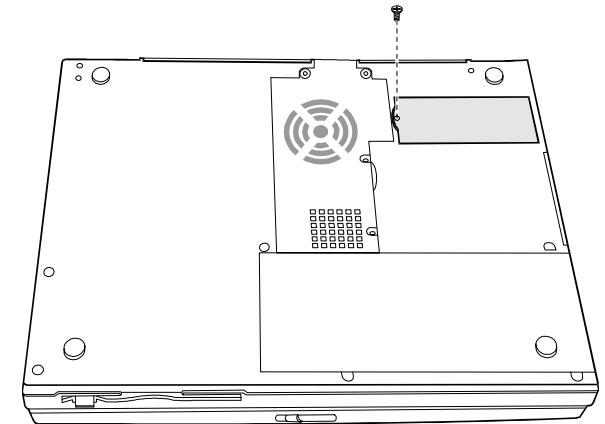

Figure 5-16. Removing the Fax/Modem/Voice Card Compartment Cover
2. Replace the compartment cover and secure with one screw. (Refer to Figure 5-16 earlier.)